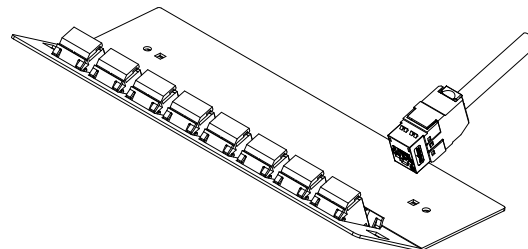

Fig. 8
1. Orientate jack into module fascia as shown in Fig. 8